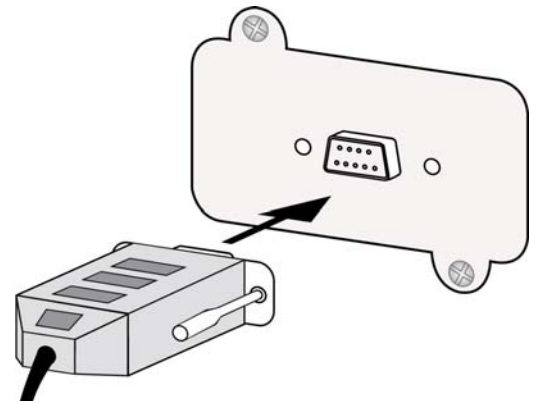

Fig. 6
- **Fig 6:** Connect data cable